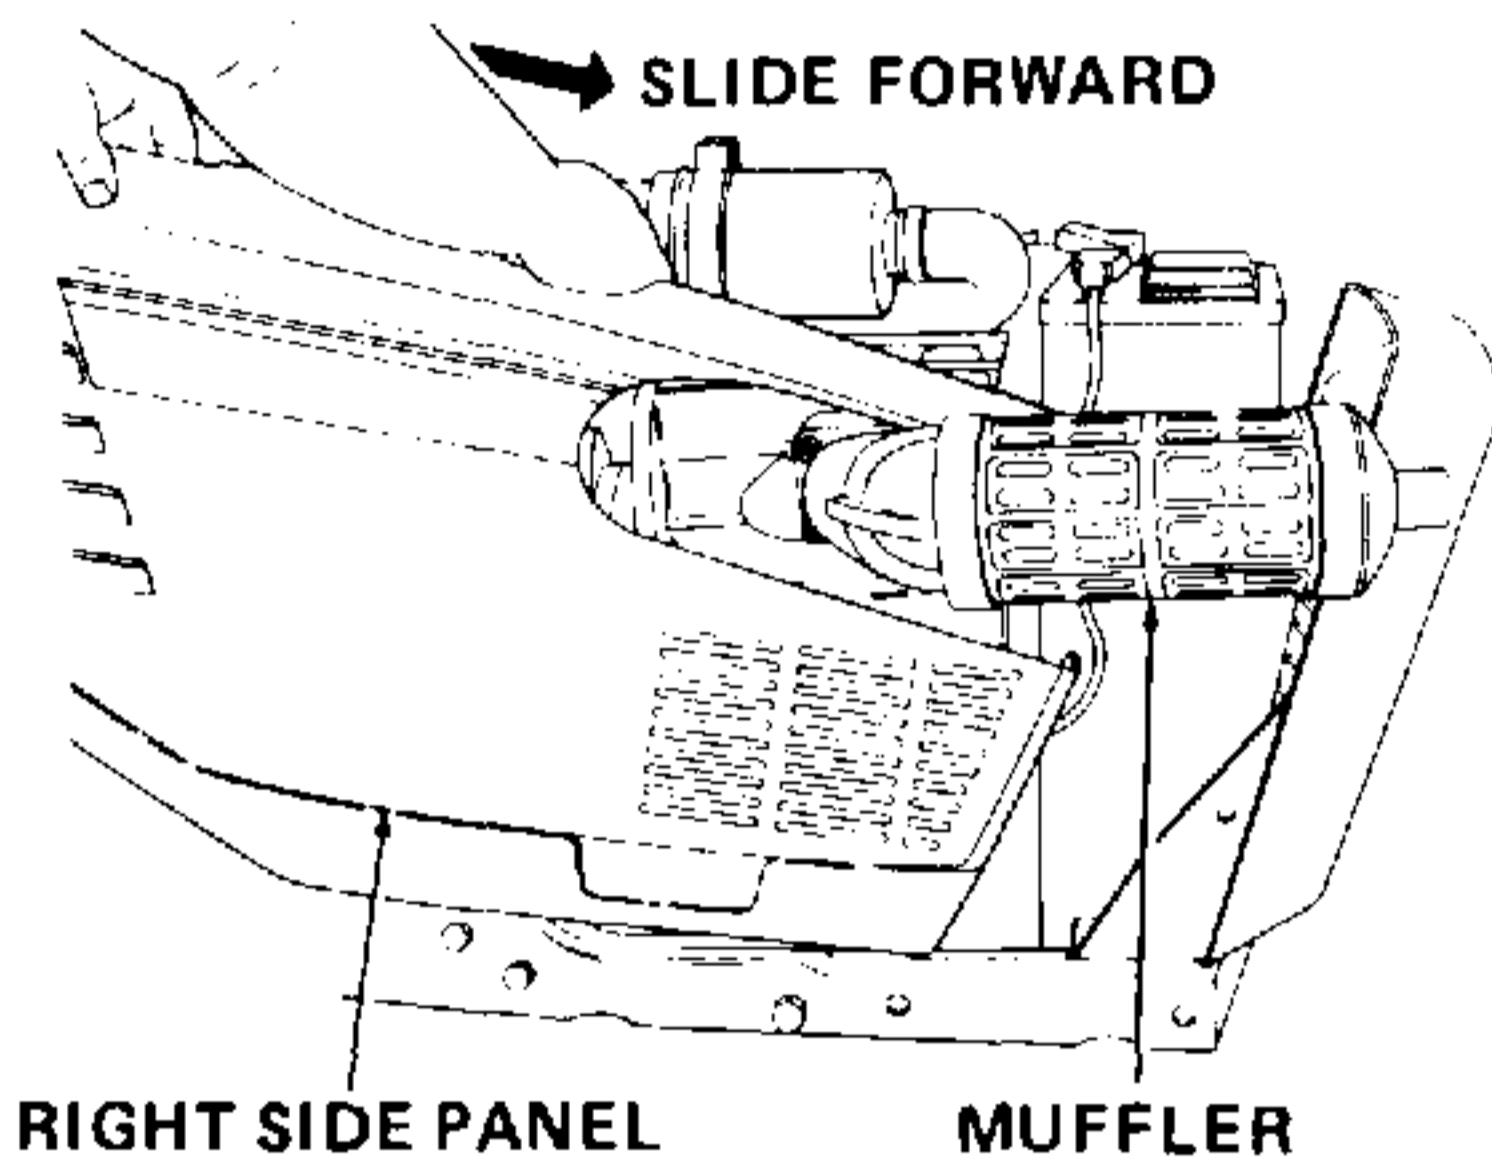

Figure 5-6. Side Panel Positioned on Tractor.
2. Install grille lens (19) by inserting into grille (8) and pushing upper part of lens to engage locking tabs.
3. Install hood (5) onto grille with hinge plate (7) and pan head tap screws (6).
4. Install right side panel (4) as follows:
- a. Position panel with front cut out area placed behind muffler as shown in Figure 5-6. Slide forward to position panel on tractor, and secure front snaps.